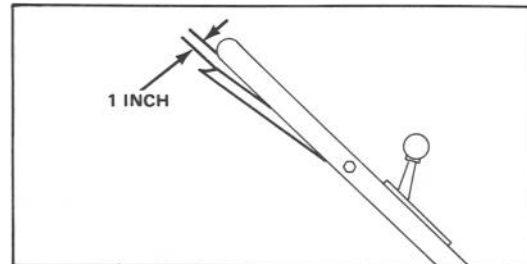

Figure 16
3. CHECK ADJUSTMENT — Slowly pull mower backward while control bar is gradually moved toward handle. Adjustment is correct when rear wheels stop turning and control bar is about 1-inch from handle (Fig. 16).